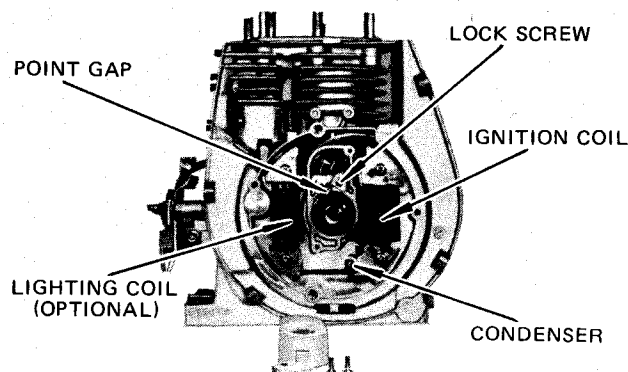

Fig. 6-2
- 4) To adjust the breaker point opening, remove the starting pulley, blower cover and flywheel from the engine, and take the following steps. (See Fig. 6-2.)